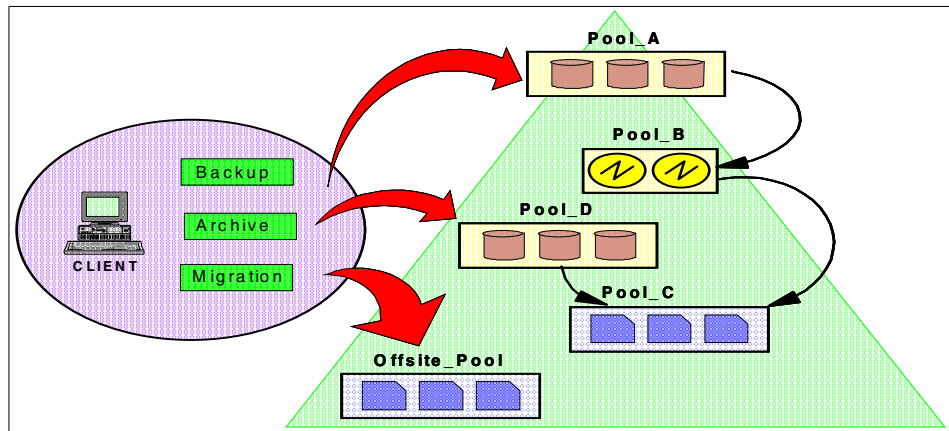

Figure 94. Tivoli Storage Manager primary storage pool
- They have a hierarchical structure (see Figure 94). Backups, archives, or migrated files can start on disk or go directly to tape. Tivoli Storage Manager controls the movement from one storage pool to the next, according to high and low storage-pool thresholds.